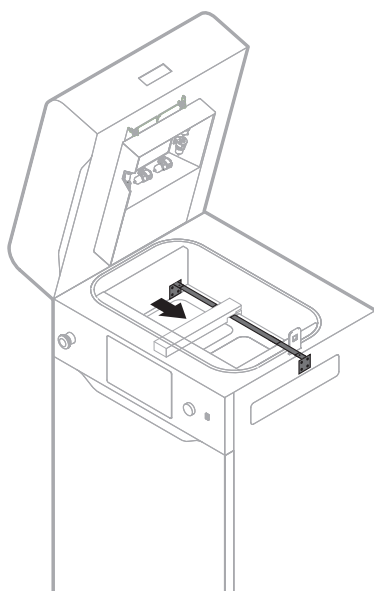

Fig. 16 Positioning the Recoater.
7. While holding the Recoater strip, position the Recoater in the middle, between the beds (fig. 16). Use one of the available ways: